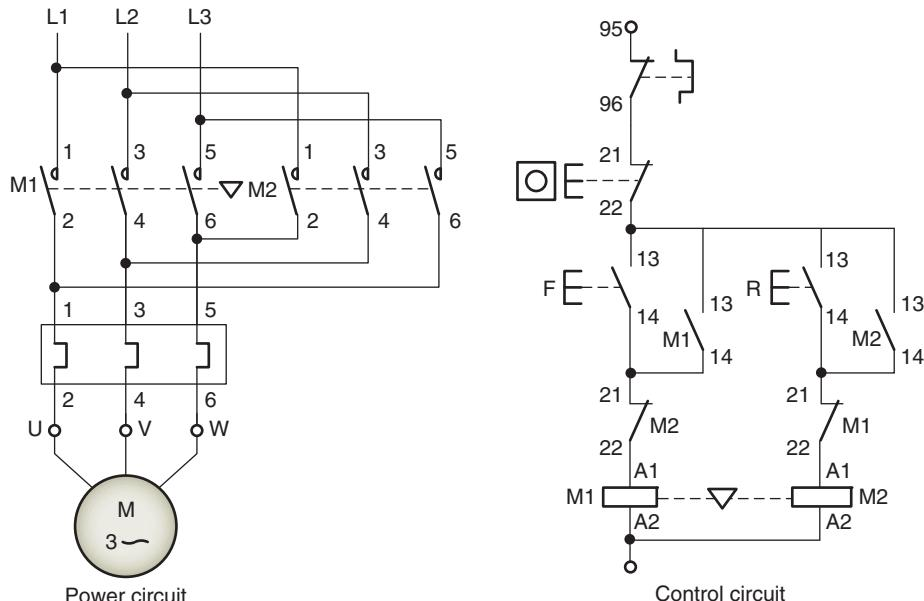

Figure 8-32 Reversing starter circuit implemented using IEC symbols.
- Figure 8-32 shows the reversing starter circuit implemented using IEC symbols.